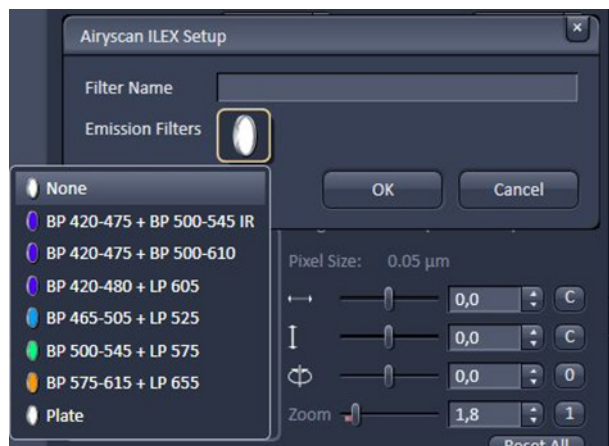

Fig. 143 Airyscan: ILEX Setup panel
- You can either type in the required bandpass emission filters or select them from the drop down list. Then press the **OK** button (Fig. 143).